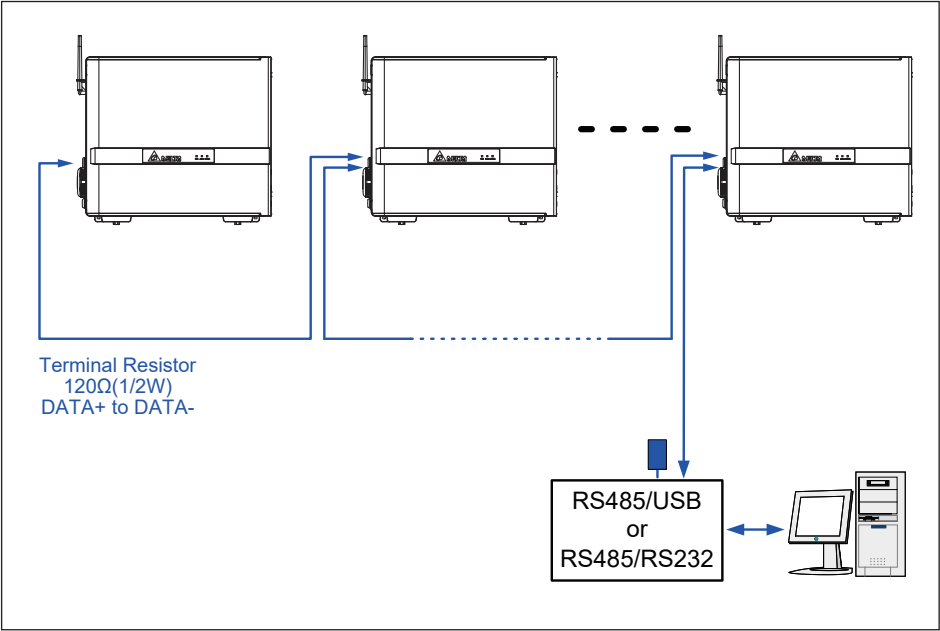

Figure 3-21: Multiinverter connection illustration
- When several inverters are cascaded (i.e., "daisy-chained") only the last inverter in the chain must have its bus termination resistor switched ON (**Figure 3-21**).